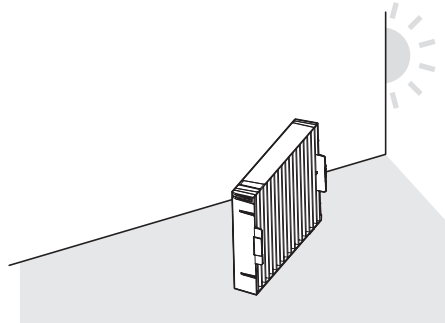

Fig. 2
- Pull out the air filter unit from the tabs on the projector body (c) while slightly pressing the grip on the air filter unit (a) inward as described with the arrow. (Fig. 2)
**2) Dry the air filter unit. (Fig. 2)**